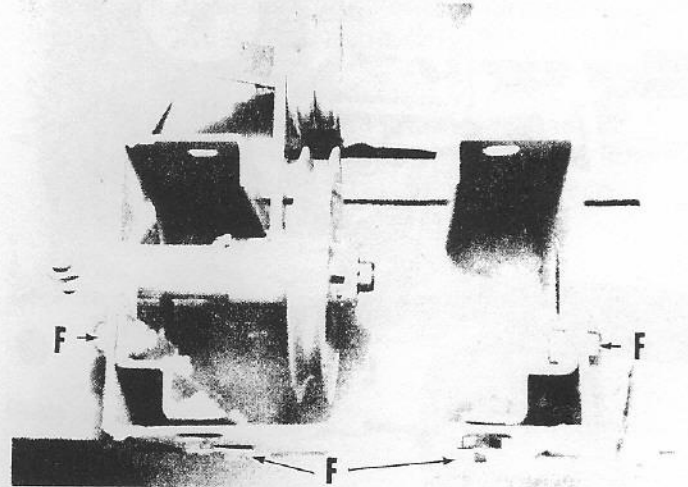

Fig. 11
The next step will be to tighten bolts (F) (see Fig. 11) which hold the mounting bracket in the pockets. Tighten each of the bolts securely.